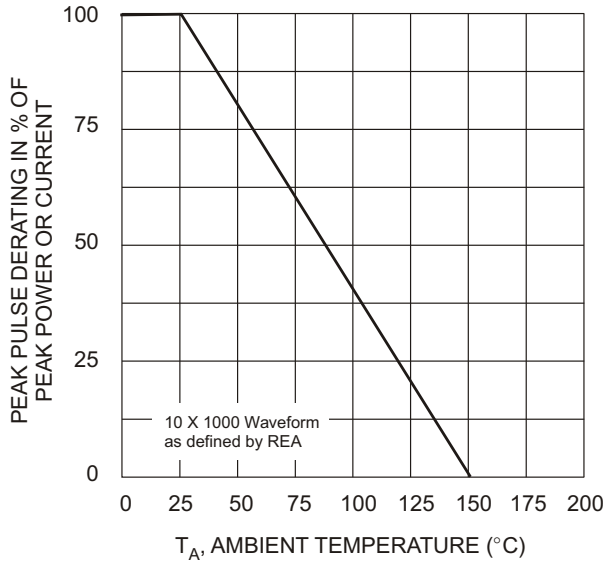
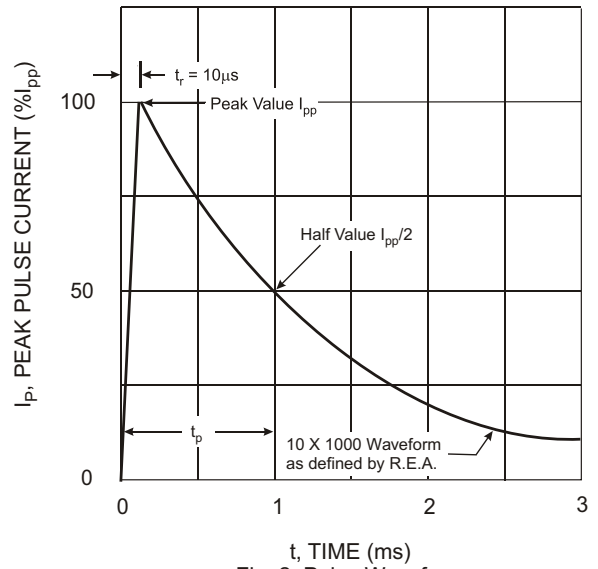

Fig. 1 Pulse Derating Curve
Fig. 2 Pulse Waveform
- Non-repetitive current pulse per Figure 2 and derate above TA = 25°C per Figure 1.